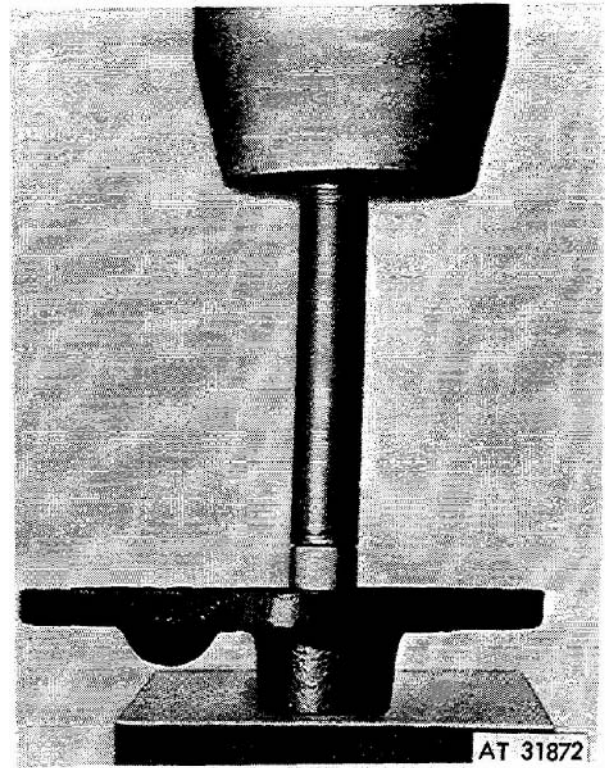

Figure 3-76. Pressing bushing into speedometer gear cover.
(16) Press bushing (13) into speedometer gear cover (7) as shown in figure 3.76.